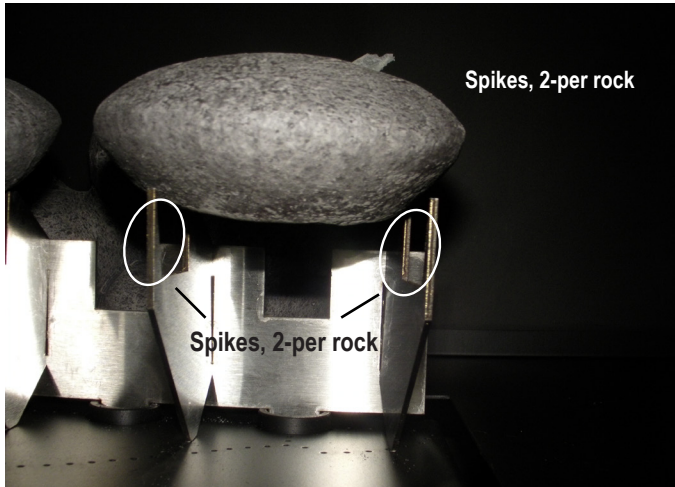

Figure 30b. Placement 4-center faux ceramic rock "B" on spikes.
2. Locate the retaining bracket as shown, slide bracket behind Rear Log retaining plate as shown in figure 30a. Fasten bracket to log as shown in figure 30b, (use supplied hardware).